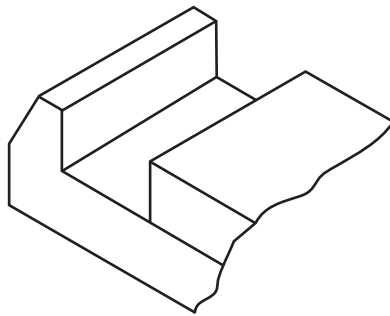

Figure 21
- d. When drilling the holes, the adjustable rail will be held in a vice that has a solid base, as shown in Figure 21.